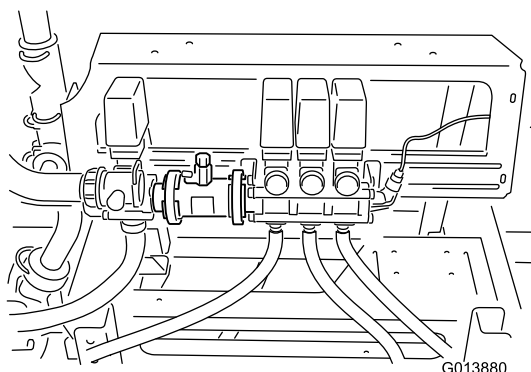

Figure 7
- F. Carefully move the boom valve assembly into the position flush with the flowmeter body (Figure 7).